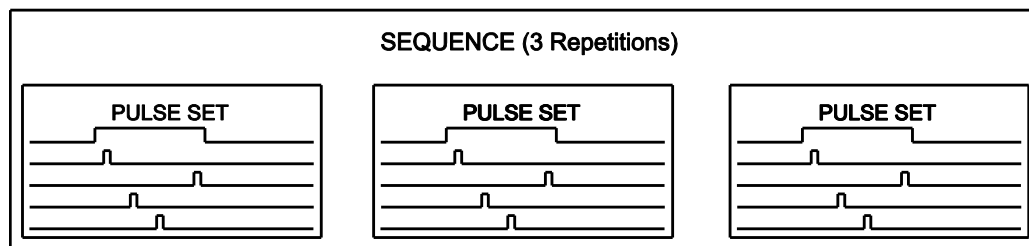

Figure 82. Sequence with 3 Repetitions
A sequence is the repetition of one pulse set “X” number of times. Figure 82 shows a sequence with the pulse set repeated three (3) times.